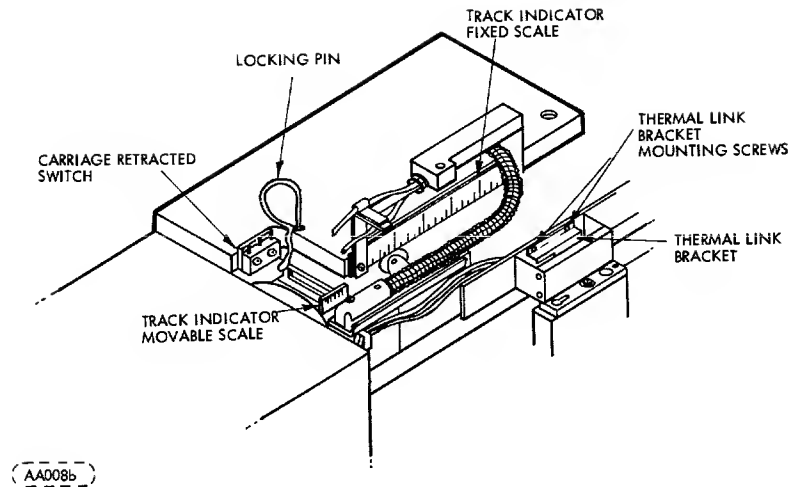

FIGURE 6-21. TRACK INDICATOR
6. Check that zero marks on fixed and movable sections of track indicators (Figure 6-21) are lined up.